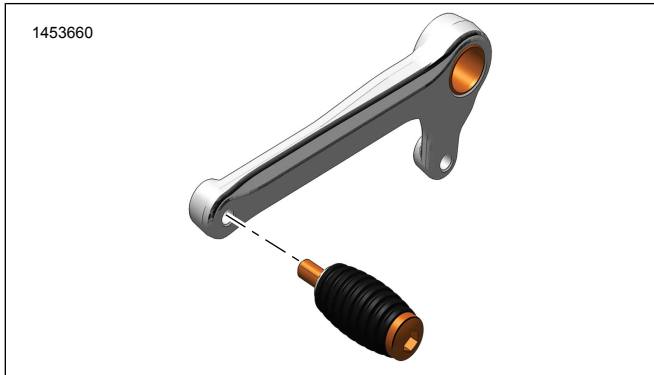

Figure 2. OE Shift Peg
1. Figure 2 Remove OE shift peg.